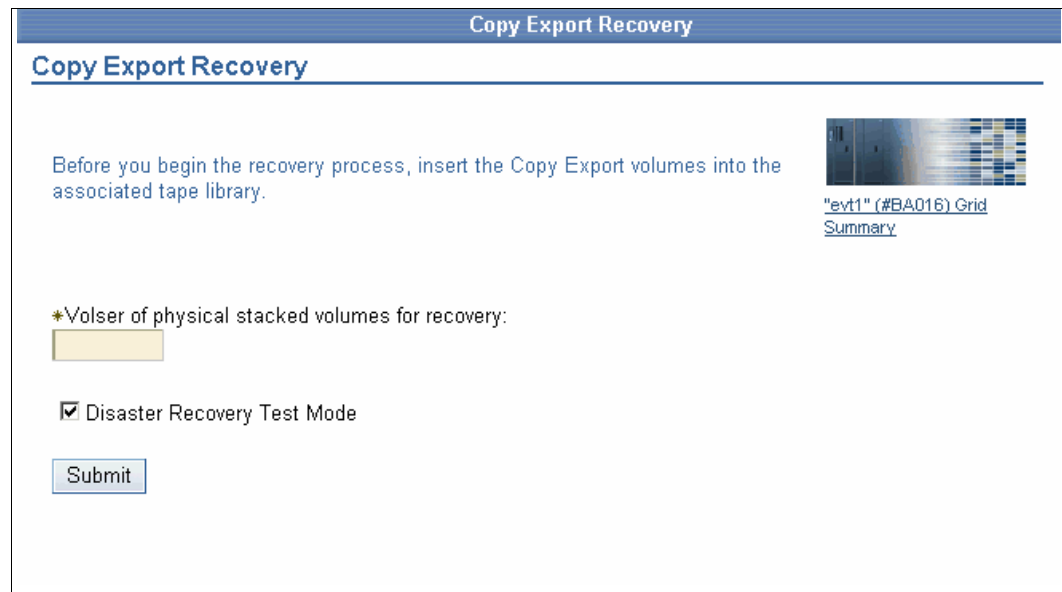

Figure 10-16 Copy Export Recovery window
The TS7740 determines that it is empty and the window shown in Figure 10-16 opens.
9. After you have added all of the physical volumes into the library and they are now known to the TS7740, use the window shown in Figure 10-16 to enter the volume serial number of one of the copy exported volumes from the last set exported from the source TS7740. It contains the last database backup copy, which will be used to restore the recovery TS7740 Virtualization Engine's database. The easiest place to find a volume to enter is from the Export List File Volume Status file from the latest Copy Export operation.